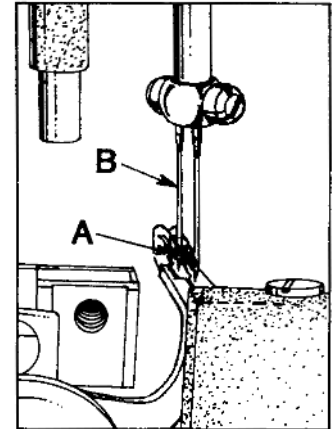

Fig. 8
The looper is set correctly if, as it moves to the left behind the needle, its point (A, Fig. 8) clears the rear of needle (B) by .002 inch (.051mm).
Insert the other needles and loopers. Other than applying pressure on the looper at the front or back Fig. 8 of the blade, so as to get the proper in-line-of-feed setting, the same looper to needle relationship should exist without any further adjustment while clamping the looper in the looper rocker.